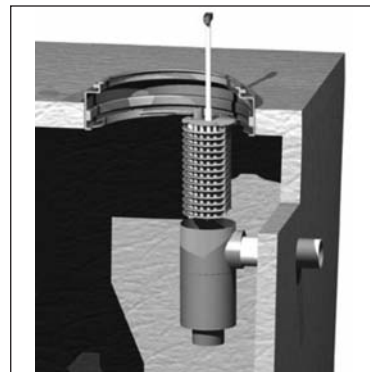

Figure 5
4. After the glue has adequately cured, insert the filter cartridge into the case, making sure the filter cartridge is properly aligned and completely inserted into the case (figure 5).